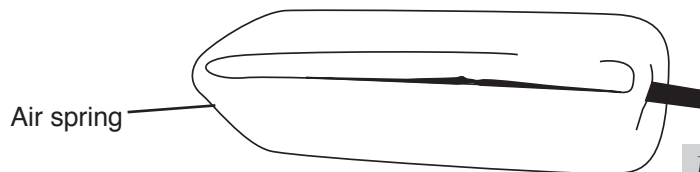

Fig. 2
3. Remove the plastic cap from the barbed stem on the end of the air spring. Exhaust the air from the air spring by rolling it up toward the barbed stem. Replace the cap on the stem to hold the flat shape (Fig. 2). Fold air spring into a "hot dog bun" shape.